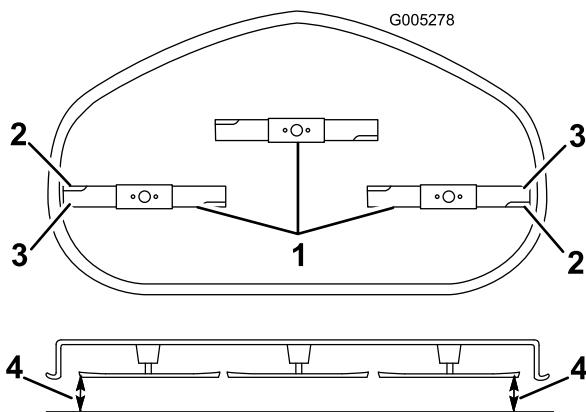

Figure 60
5. Carefully rotate the blade(s) side to side (Figure 60). Measure between the outside cutting edges and the flat surface (Figure 60). If both measurements are not within 5 mm (3/16 inch), an adjustment is required; continue with this procedure.